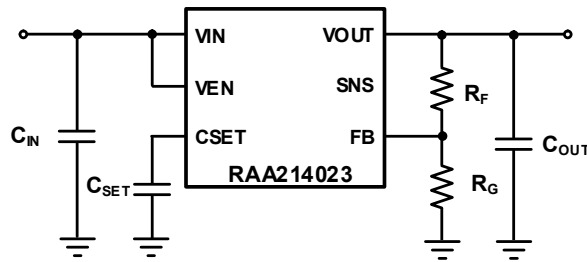

Figure 125. RAA214023 Simplified Application Schematic
The RAA214023 output voltage (V_{OUT}) can be programmed down to 0.8V and up to $5.5V - V_{DO}$ using the feedback (FB) resistors, R_F and R_G , as shown in Figure 125.